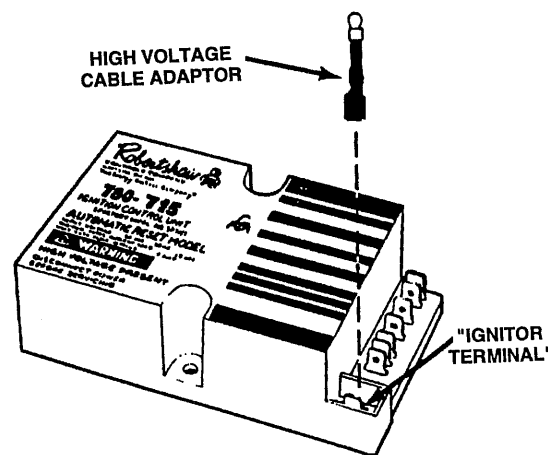

FIGURE 3
7. Locate the high voltage cable adaptor included in the kit. Attach it to the "ignitor" terminal on the new ignition module. See Figure 3.